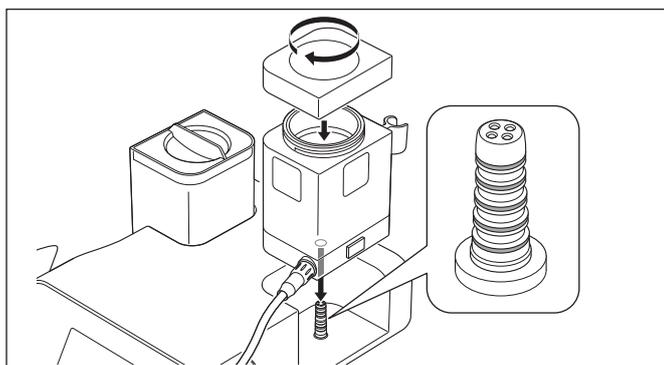
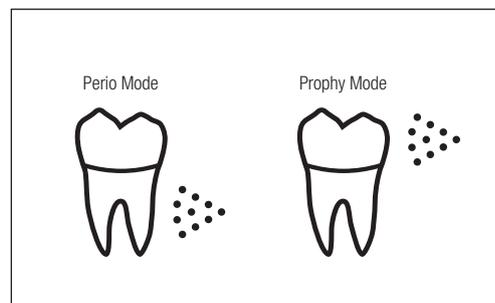

Fig. 25
Fig. 26
- 2) Close the Chamber Cap securely until it fits the Chamber completely and insert the Chamber straight to the Control Unit (Fig. 25). The type of inserted Chamber is displayed on the LCD Panel as one of the following icons (Fig. 26).
- Before inserting the Chamber into Control Unit, make sure the O-Rings of the Chamber Base Connector are not damaged or torn (Fig.25). Damaged or torn O-Rings could lead to poor operation or malfunction.